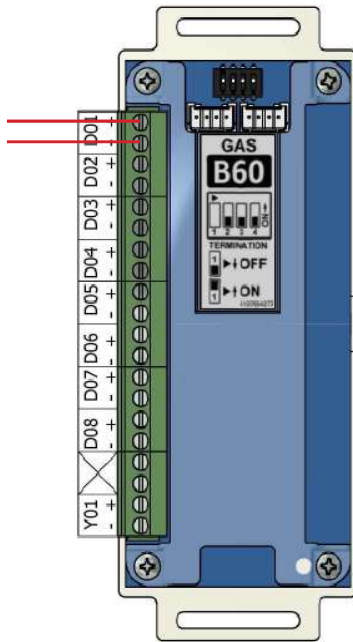

Figure 25: B60 Board Wire Routing
2. Route each pair of sensor wires as shown (Figure 25) to appropriate terminals.